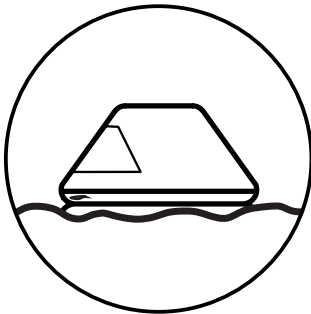

Fig 13 - Locate the hole or leak
1. The method of sealing allows for it to be used underwater. It is simple to use and is a quick and easy way to make sure you stay afloat. Locate the hole or leak (Fig 13).